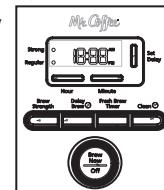

Figure 7
1. After completing the steps in the **Adding Water and Coffee** section and with the glass decanter and the filter basket securely in place, turn the coffeemaker on by pressing the Brew Now/Off button once. The Brew Now/Off white light will pulse during the brewing process. It will stay lit after the brewing is complete for up to 2 hours (Figure 7).